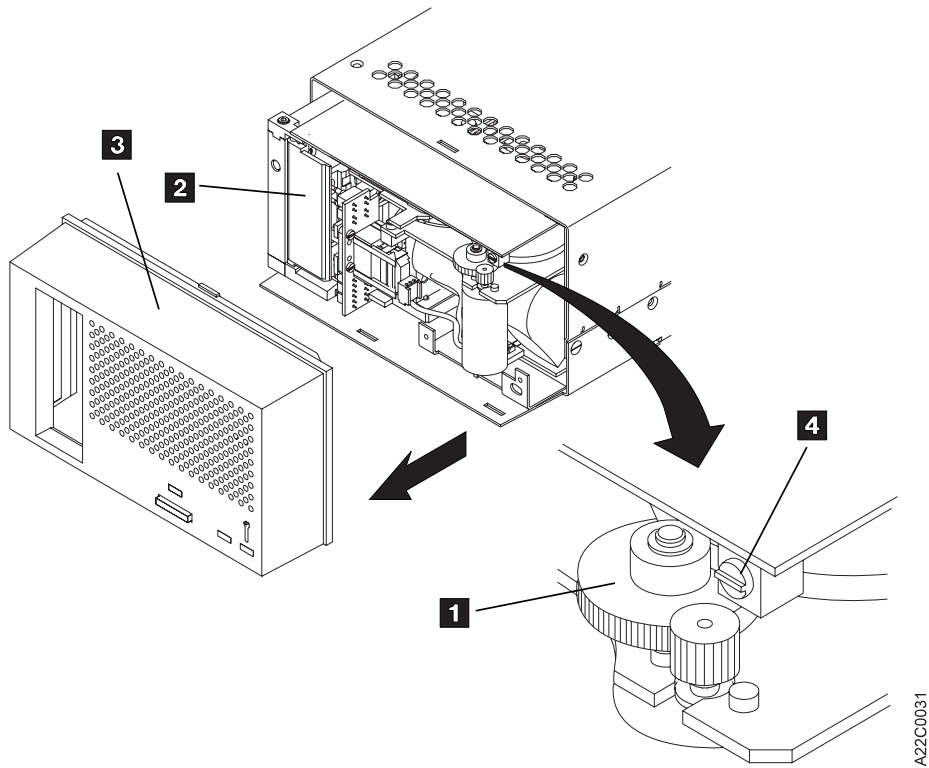

Figure 6. Setting the SCSI Address on Model B00
3. Remove the drive cover (see **3** in Figure 6) by pressing the top center of the drive cover and pulling it from the front of the drive (see **2** in Figure 6).
4. Set the rotary SCSI address switch (see **4** in Figure 6), located in the upper right corner, near the drive gear (see **1** in Figure 6), to the specified address. The switch is set to 0 at the factory.